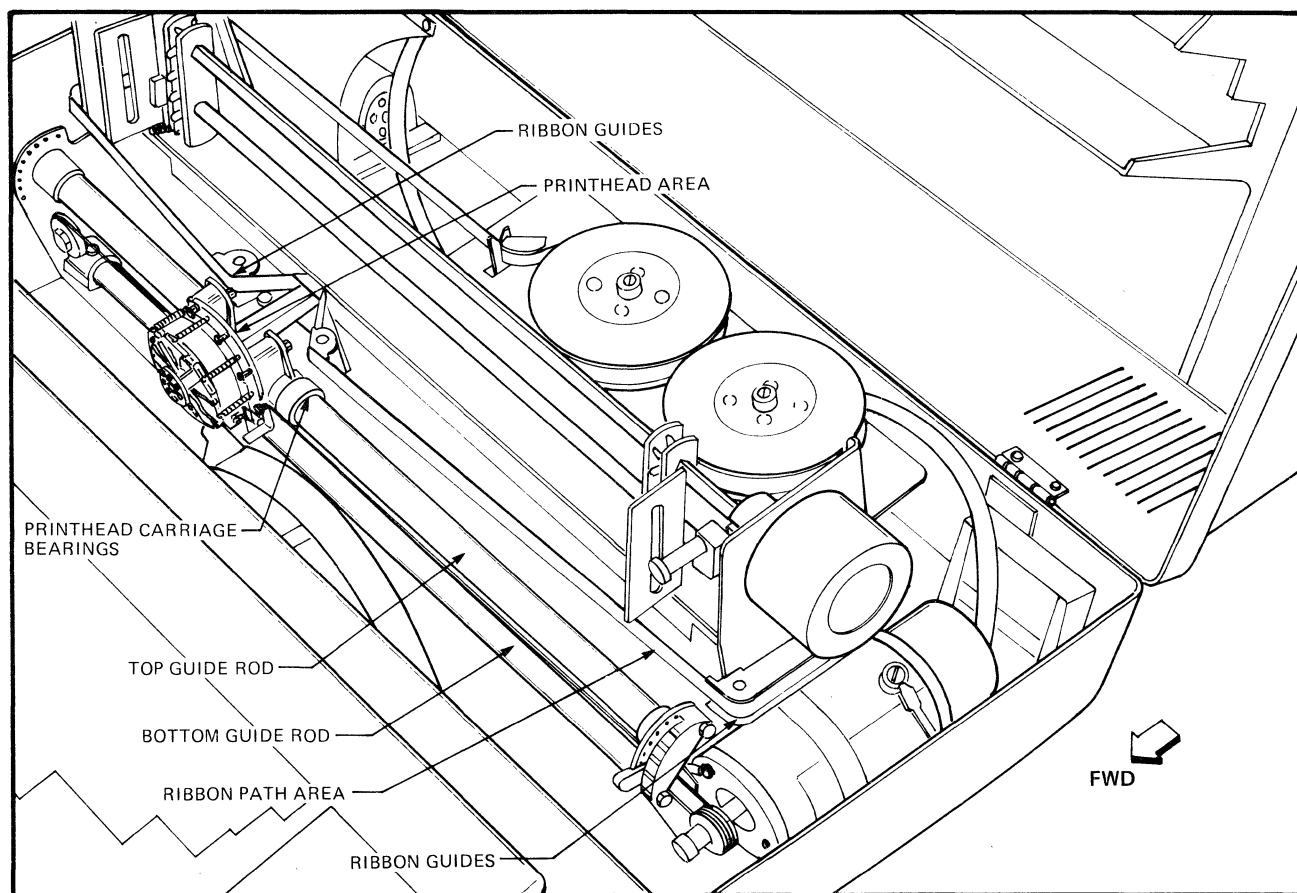

Figure 5-1. Printhead Area, Guide Rods, and Ribbon Guide
- c. Carefully vacuum the paper chaff from the printhead and the ribbon path (see Figure 5-1).
- a. Switch the terminal power OFF. Refer to Figure 5-1 for the location of the components mentioned in the following steps.